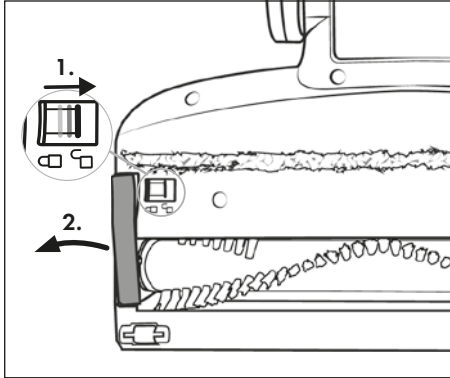

Fig. 26
- 2) Unlock the rotary brush 21 by sliding the rotary brush release 19 with your finger towards the symbol  (open). Remove the rotary brush holder 20 from the floor brush 22 (see Fig. 26).